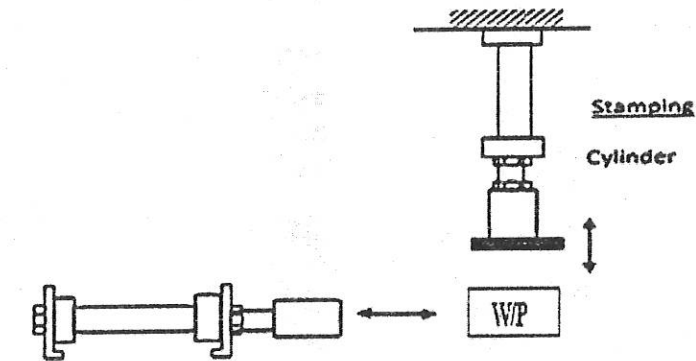

Fig. 1
16. (a) In a press shop, the stamping operation is to be performed using a stamping machine as shown in Fig.1. Before stamping, the workpiece has to be clamped under the stamping station. Then stamping tool comes and performs the stamping operation. The workpiece must be unclamped only after stamping operation. Find the sequence and design a pneumatic circuit using a suitable method.